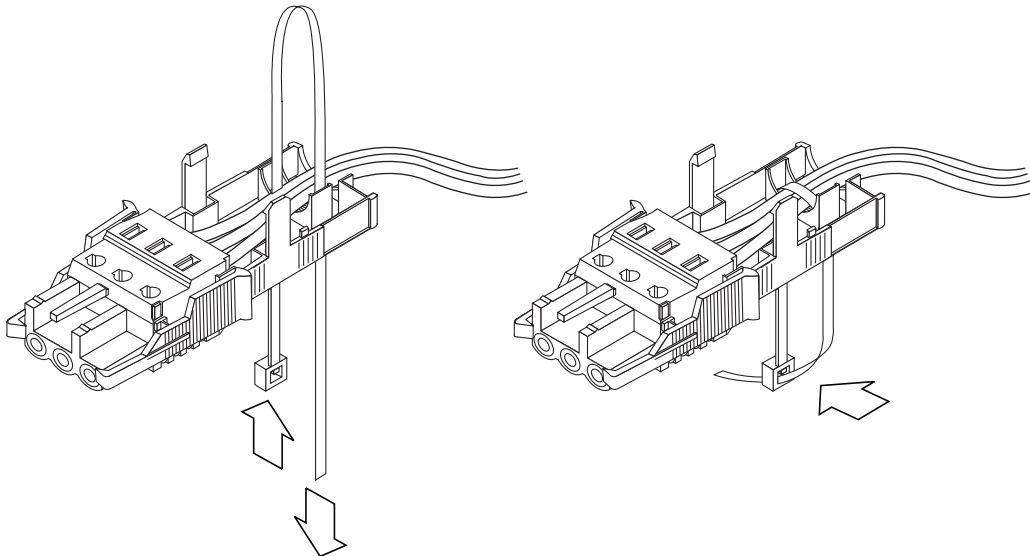

FIGURE 3-12 Securing the Wires to the Strain Relief Housing
4. Loop the wire tie over the wires and back out of the strain relief housing, then tighten the wire tie to secure the wires to the strain relief housing (FIGURE 3-12).